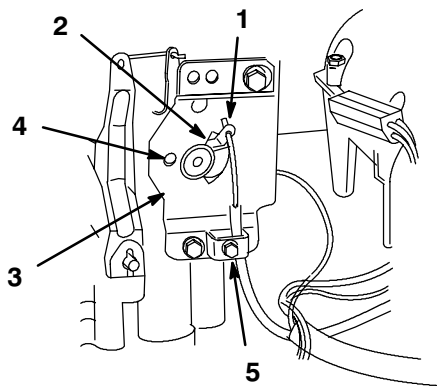

Figure 6
- Place throttle control lever in FAST position.(Fig. 6).
- Hook wire Z-bend into hole of speed control lever (Fig. 6).
3. Loosen cable clamp screw allowing cable installation, but do not tighten (Fig. 6).